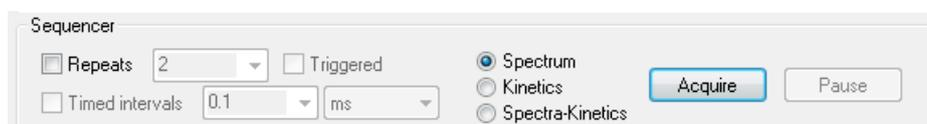

Figure 2.43: the Sequencer panel for steady state absorbance
2) Ensure that **Spectrum** mode is selected on the **Sequencer** panel (Figure 2.43).